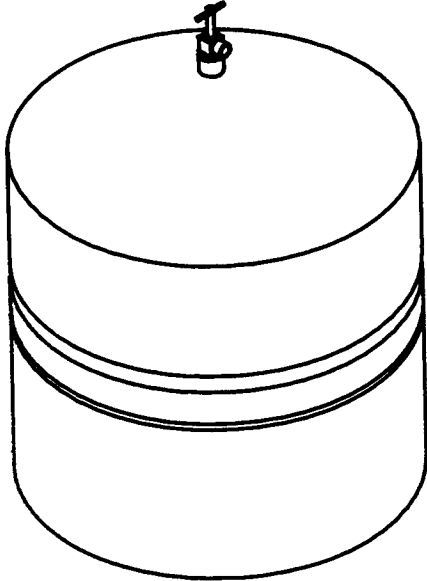

FIG. 2
The reservoir tank (Fig. 2) stores the water that has been produced by the reverse osmosis module. It features a bladder precharged with 5 psi (35 kPa) air pressure to provide the pressure needed to deliver drinking water to the dispenser faucet. The standard reservoir is a plastic-lined steel tank with a maximum capacity of three gallons (11 L). A large capacity version of this tank is available which can store up to 10 gallons (38 L).
- *NOTE: H-83S-R features a single particulate/activated carbon prefilter in place of items 1 & 2. See page 5 for description.
- Reservoir Tank Carton (Fig. 2)